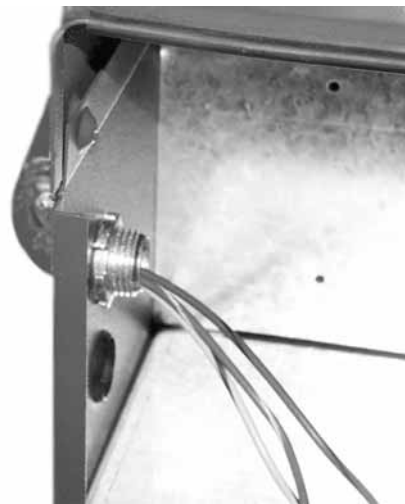

Fig 14
16. Install the left side outdoor conduit through the top 7/8" hole located on the left side of the heater. See Fig. 14. Note: You must first remove the 7/8" plug on the heater to install the conduit.